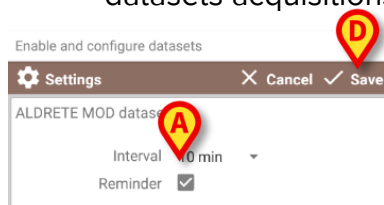

Fig 100
- Select the “Reminder” checkbox to get automatic reminders on when the datasets acquisitions are due (Fig 100 **A**).
- Touch the **Save** option to save the changes made (Fig 100 **B**).